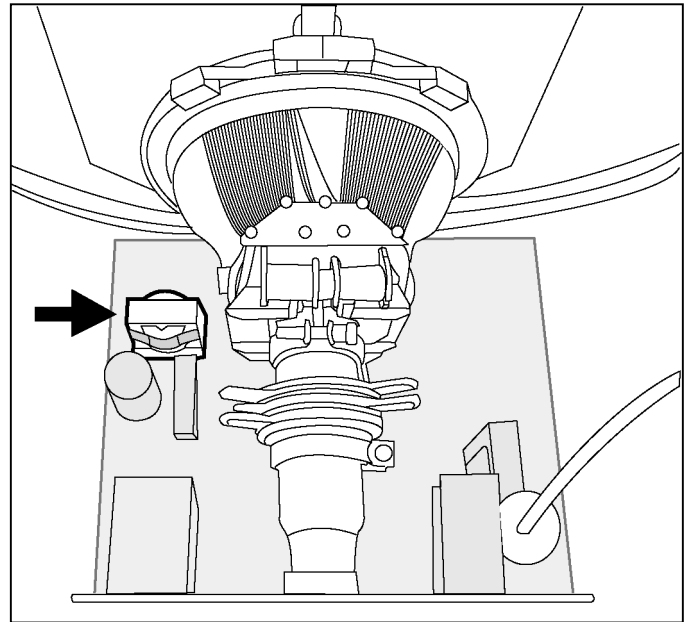

Figure 2: Monitor Chassis
3. Locate the isolation transformer. It is usually to the left of the tube and across from high voltage. Refer to Figure 2. If the isolation transformer is present, proceed to Part 2.